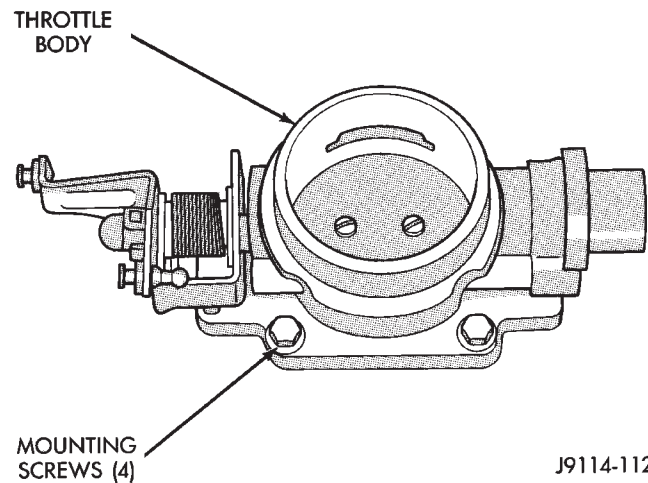

Fig. 16 Throttle Body—Removal/Installation—Typical
(5) Remove throttle body mounting bolts, throttle body and gasket. Discard old gasket (Fig. 16).